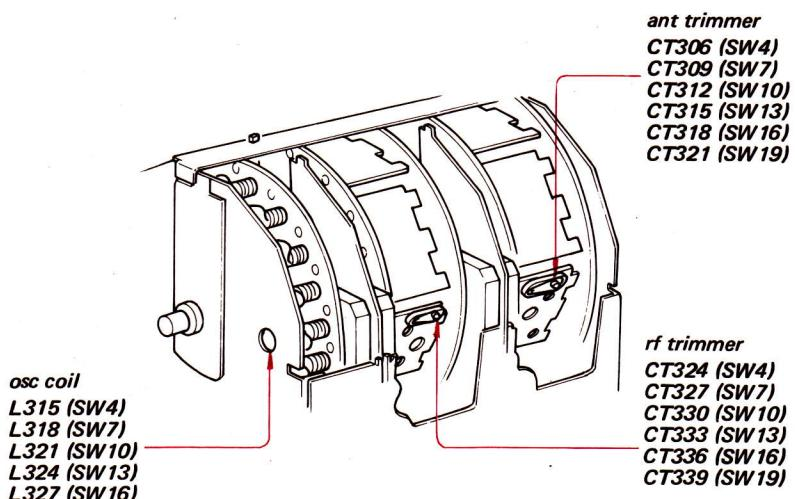
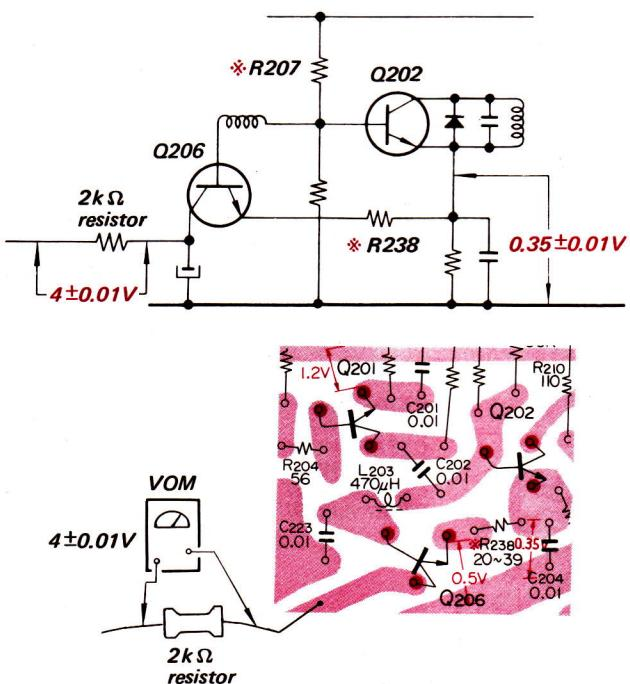

Fig. 3-18 Adjusting parts location for SW4, SW7, SW10, SW13, SW16 and SW19
Fig. 3-19 2k $\Omega$  resistor connection
2. Connect a 2k $\Omega$ -carbon resistor to the collector of Q206 as shown in Fig. 3-18 and Fig. 3-19.